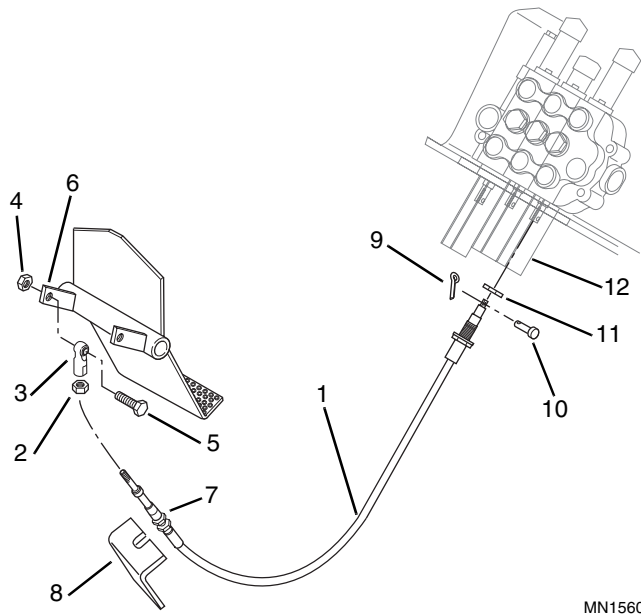
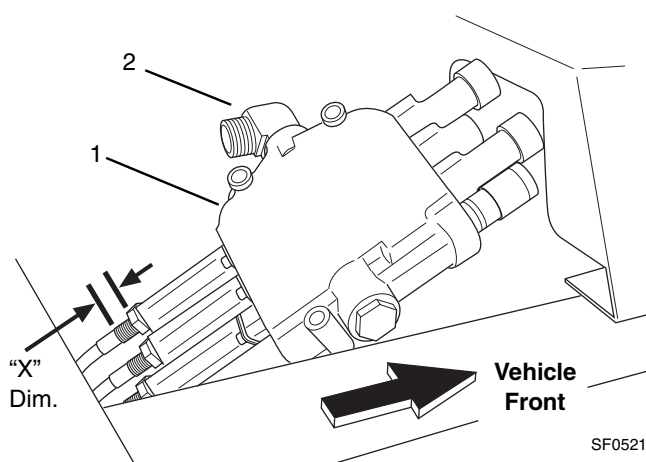

Figure 7-68 Optional Auxiliary Hydraulics Cable
Figure 7-70 Main Control Valve Installation.
3. To remove the auxiliary hydraulic control cable (Fig. 7-68, 1) from the vehicle, loosen the hex jam nut (2) below the ball joint (3), and remove the hex nut (4) and capscrew (5) connecting the ball joint (3) to the foot pedal (6). Remove the ball joint (3) and hex jam nut (2) from the cable.
4. Loosen the hex jam nut (Fig. 7-68, 7) and remove the cable (1) from its anchor bracket (8).
8. Disconnect the end of the control cable by removing the cotter pin (Fig. 7-68, 9) and clevis pin (10) from the cable end and valve spool.
9. Loosen and remove nut (Fig. 7-68, 11) and remove the cable from control valve strap adapter (12).
10. Remove the cable (Fig. 7-68, 1) from the vehicle.
1. Insert the valve end of the control cable (Fig. 7-68, 1) into the control valve strap adapter (12), and loose install the jam nut (11).
2. Adjust the length of the exposed threads (Fig. 7-70, "X" Dimension) on the cable housing to the measurement recorded during the removal procedure. If this dimension was not recorded, adjust the length of the exposed threads to 7/16" (11 mm). Tighten the jam nut (Fig. 7-68, 11).
5. Remove the hose fitting cap and hose plug, and reassemble the hose to the fitting (Fig. 7-70, 3) on the left side of the valve. Torque the hose (Refer to Section 2.8, "Torques").
6. Insert the opposite end of the control cable (Fig. 7-68, 1) into the cable anchor (8), and secure with hex jam nut (7).
7. Loose install the hex nut (Fig. 7-68, 2) and ball joint (3) to the threaded end of the control cable.
3. Align the control cable (Fig. 7-68, 1) to the valve spool, and secure with a clevis pin (10) and cotter pin (9).
4. Reassemble the main control valve (Fig. 7-70, 1) to the crossmember with the original three capscrews, and tighten securely.
9. Turn the ball joint (Fig. 7-68, 3) as required to align it with the hole in the foot pedal (6). Insert the capscrew (5), and secure with a hex nut (4). Tighten the hex jam nut (2) against the ball joint (3).